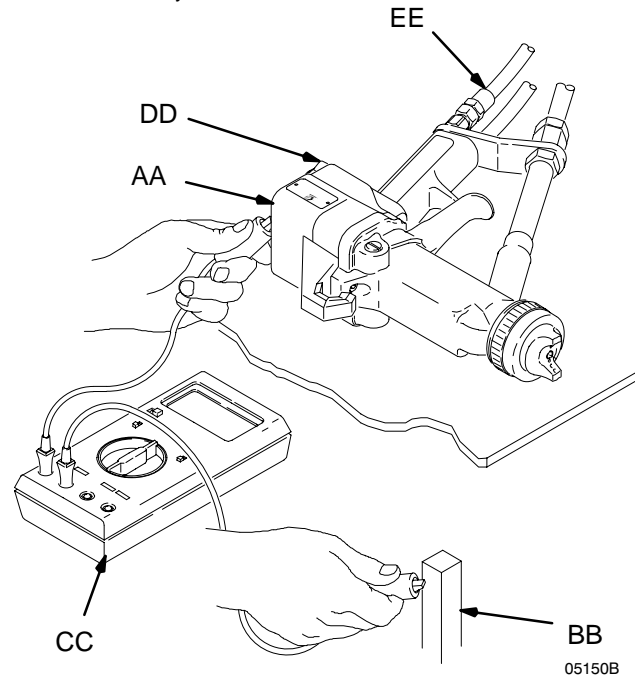

Fig. 7
2. Make sure the red Graco electrically conductive air hose (EE) is connected to the gun and the hose ground wire is connected to a true earth ground. See Fig. 7.
4. Turn the gun ES ON-OFF lever (DD) to OFF.
5. Measure the resistance between the gun handle (AA) and a true earth ground (BB) with an ohmmeter (CC). Resistance should not exceed 100 ohms.
KEY- Fig. 7